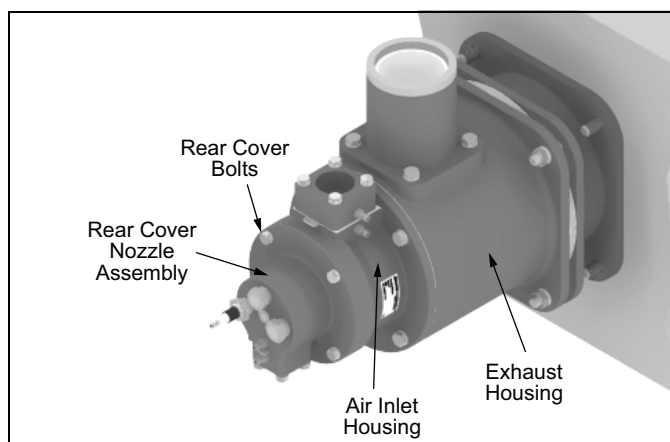

Figure 3.16
1. Remove rear cover assembly by removing rear cover bolts. See Figure 3.16.